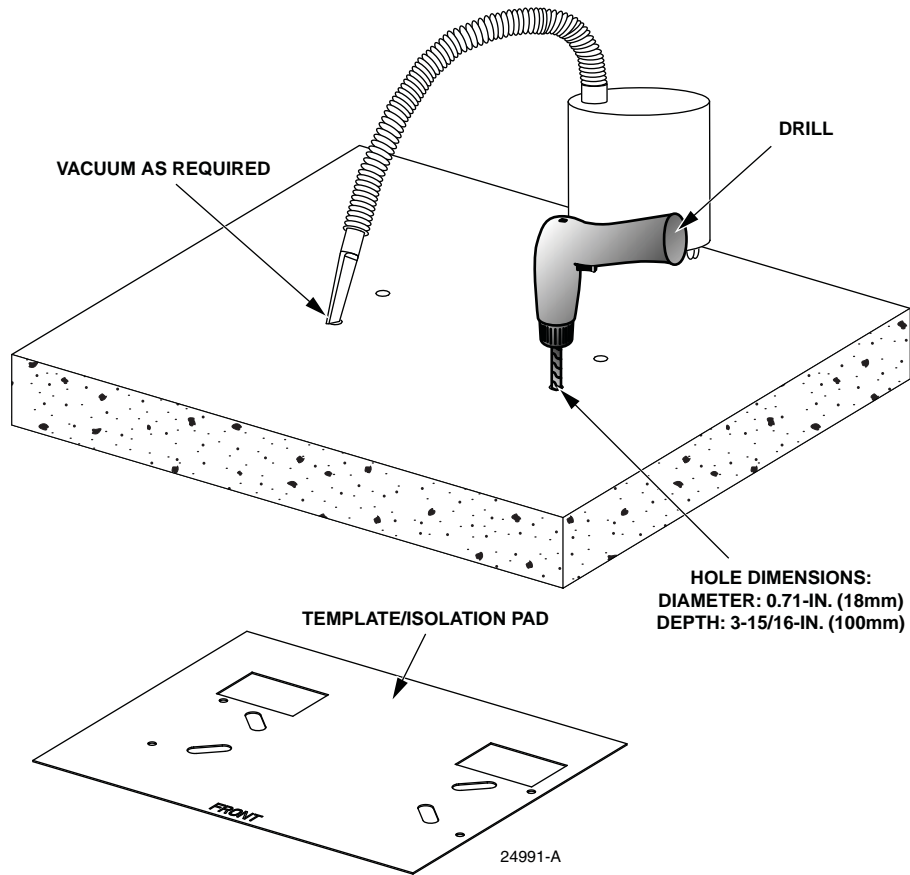

Figure 5. Drilling Mounting Holes
3. Set aside the isolation pad and drill four mounting holes in the concrete at the marks just made, as shown in Figure 5.